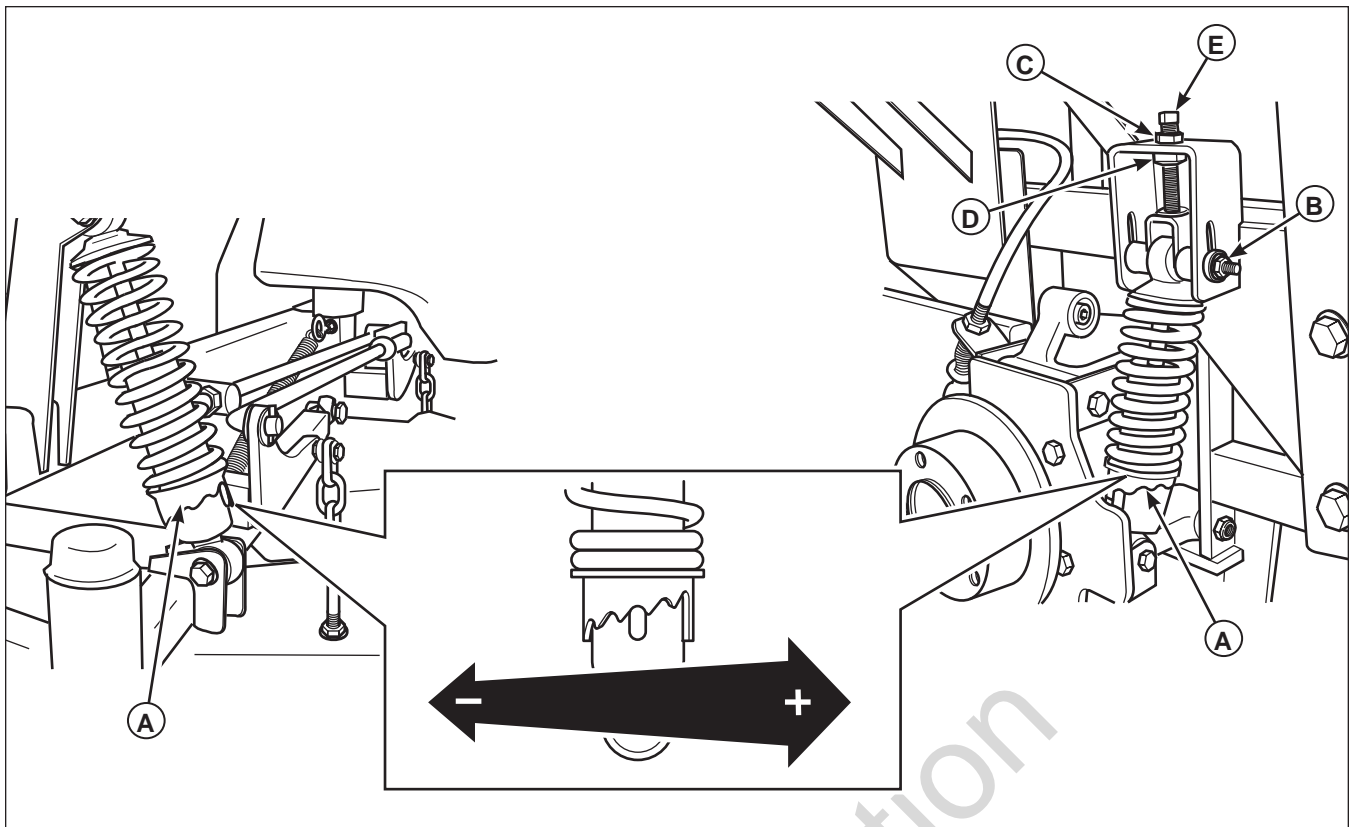

Figure 36. Suspension Adjustment
2. See Figure 36. Using the supplied spanner wrench (p/n 5022853), insert the tip of the wrench into the notch in the pre-load adjuster. While holding the wrench with both hands, turn **CLOCKWISE** to decrease the pre-load, turn **COUNTER-CLOCKWISE** to increase the pre-load. Make sure that for each pair of shocks that the left-hand and right-hand are set to the same amount of pre-load.